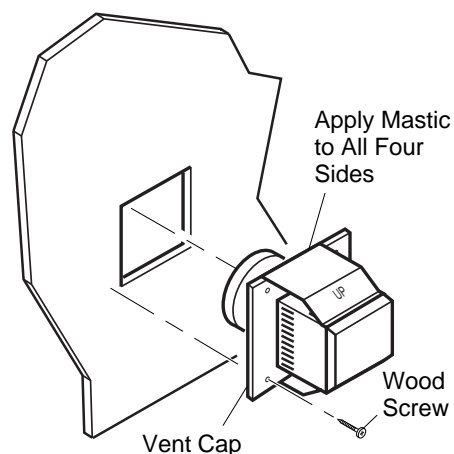

Figure 14 - Installing Horizontal Vent Cap
- Apply a bead of non-hardening mastic around the outside edge of the vent cap. Position the vent cap in the center of the 7 1/2" or 10" hole on the exterior wall with the arrow on the vent cap pointing up. Insure proper clearance of 1" to combustibles is maintained. Attach the vent cap with four wood screws supplied (see Figure 14). **Note:** Replace the wood screws with appropriate fasteners for stucco, brick, concrete, or other types of siding.